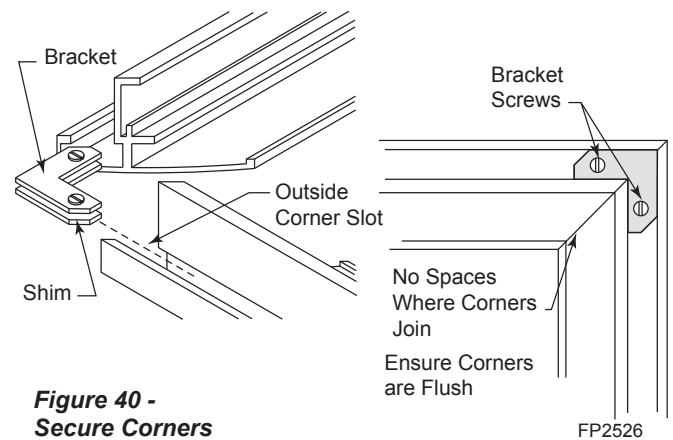

Figure 40 -
3. Slide one (1) 90° angled bracket (with attached screws) and one (1) 90° angled shim in the outside corner slot where the top and side trims meet. *Figure 40*
4. Hold the corners together securely. Tighten screws on bracket with flat head screwdriver. Make sure the corners are flush and there are no spaces. **Do not over tighten screws.** *Figure 40*